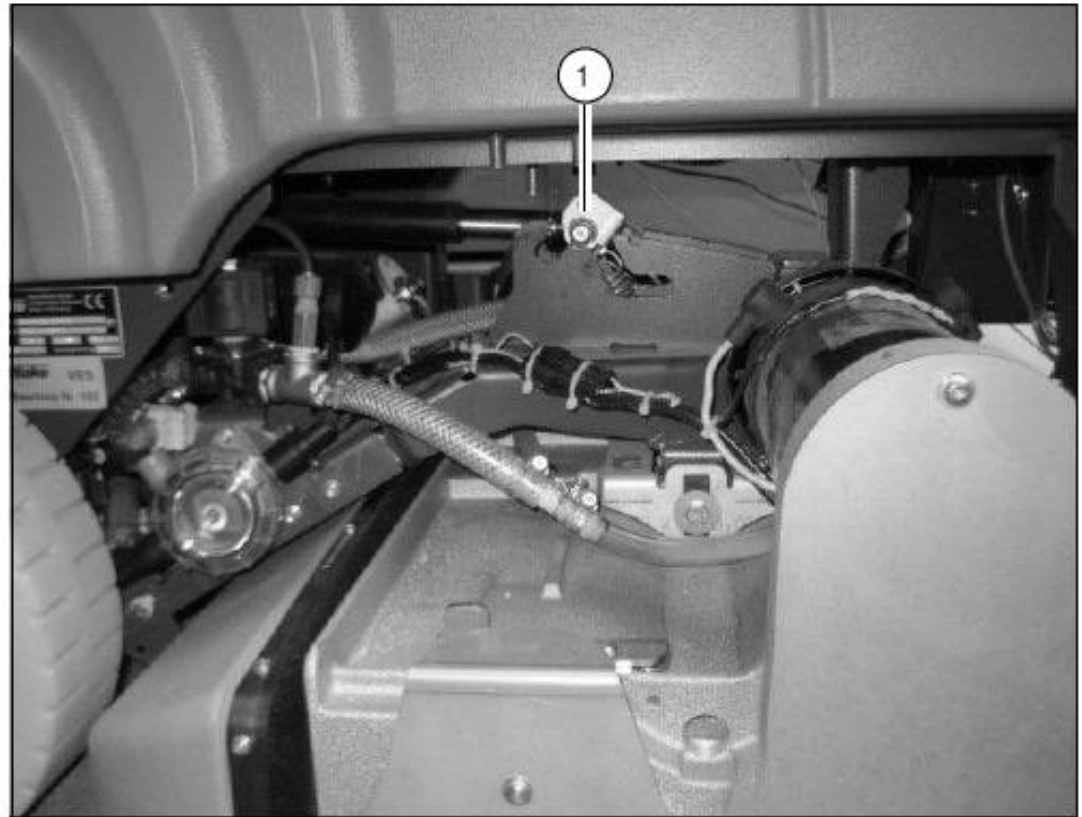

Fig.3
4. Disassemble the front cotter bolt (Fig. 3/1) and insert the buckle with tension spring in the transport safety device.